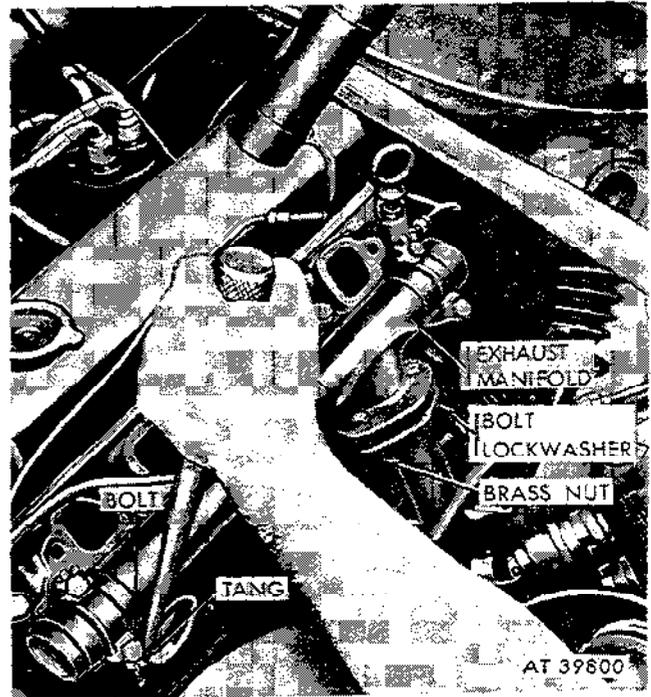

Figure 2-75. Remove bolts from exhaust manifold.
(1) Remove intake manifold (para 2-39).
(2) Remove two brass nuts securing inlet pipe to exhaust manifold (fig. 2-75).
(3) Remove bolt and lockwasher securing exhaust manifold flange to block (fig. 2-75).
(4) Open locking tabs on four mounting bolts and remove bolts and two clamps (fig. 2-75).